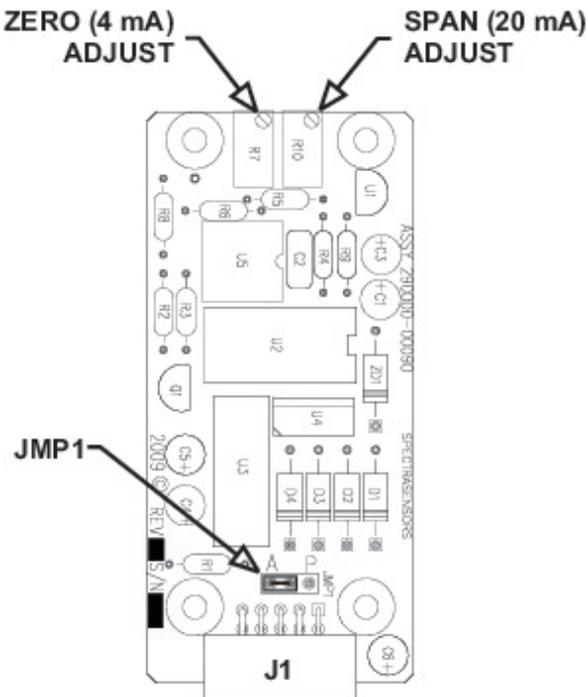

Figure 3–7 4–20 mA output board
3. Remove the jumper (JMP1) connecting the center pin to pin A. Refer to Figure 3–7.